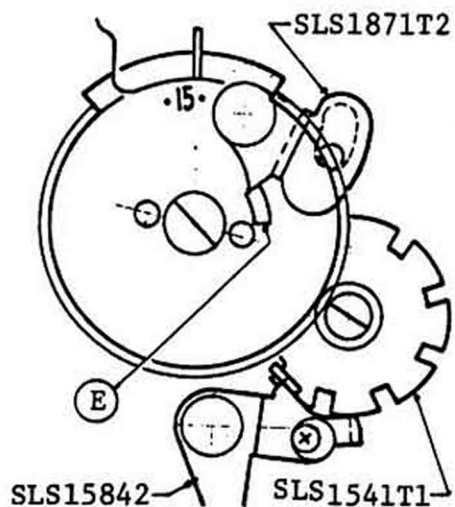

Fig.77-1
When winding the film advance lever more after the fixed number of exposures have been taken (15), turn of the exposure counter is stopped because the (E)-protrusion on back of SLS15521 Film counter base strikes against the SLS1571T2 Change-over lever as shown in Fig. 77-1.
Above means that the end (B) of SLS15842 Stop lever is on the top of the dividing device and can not get into its groove as shown in Fig. 77-1 and 77-2.
4) ①-Friction gear that conveys rotation of the friction wheel engages with ② SLS-1531S1 Film counter gear No. 1.